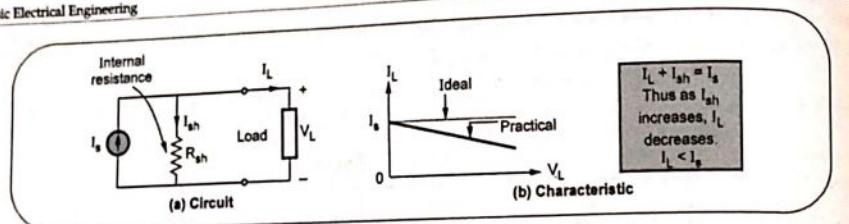

Fig. 1.6.4 Practical current source
- But practically, every current source has high internal resistance, which is in parallel with current source and it is represented by  $R_{sh}$ . This is shown in the Fig. 1.6.4.